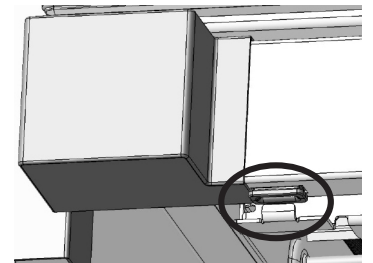
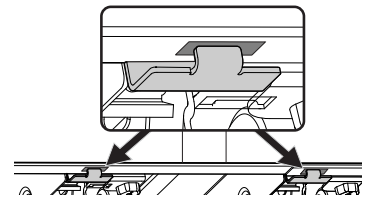
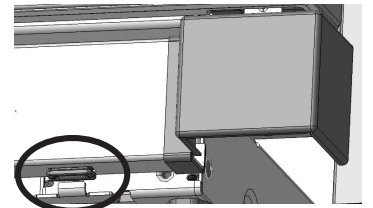

Fig. 27
Fig. 28
Fig. 29
26. a. Carefully place the Toe Kick slots over the 4 Leveler Assembly Tabs. The first Leveler Assembly tab is circled in Fig. 27, the second and third tabs are circled in Fig. 28, and the fourth tab is circled in Fig. 29.